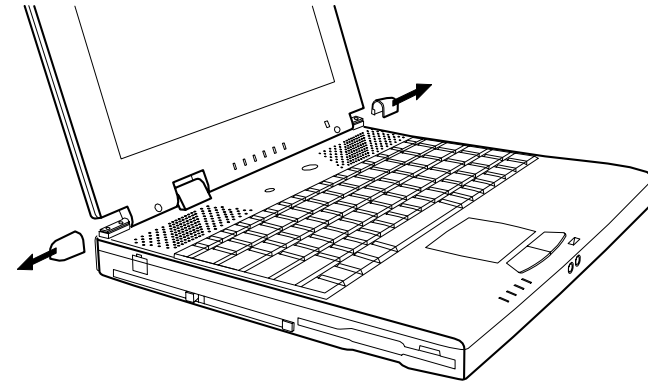

Figure 7-15. Removing the Hinge Covers
3. Replace the hinge covers. (Refer to Figure7-15)